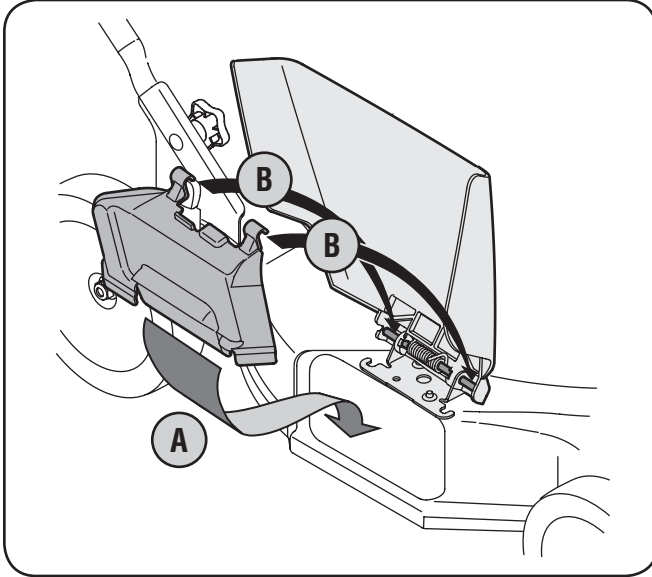

Figure 3-6
- a. Lift up and hold the side-discharge chute deflector and insert the bottom lip of the mulching baffle inside the chute opening See Fig. 3-6.